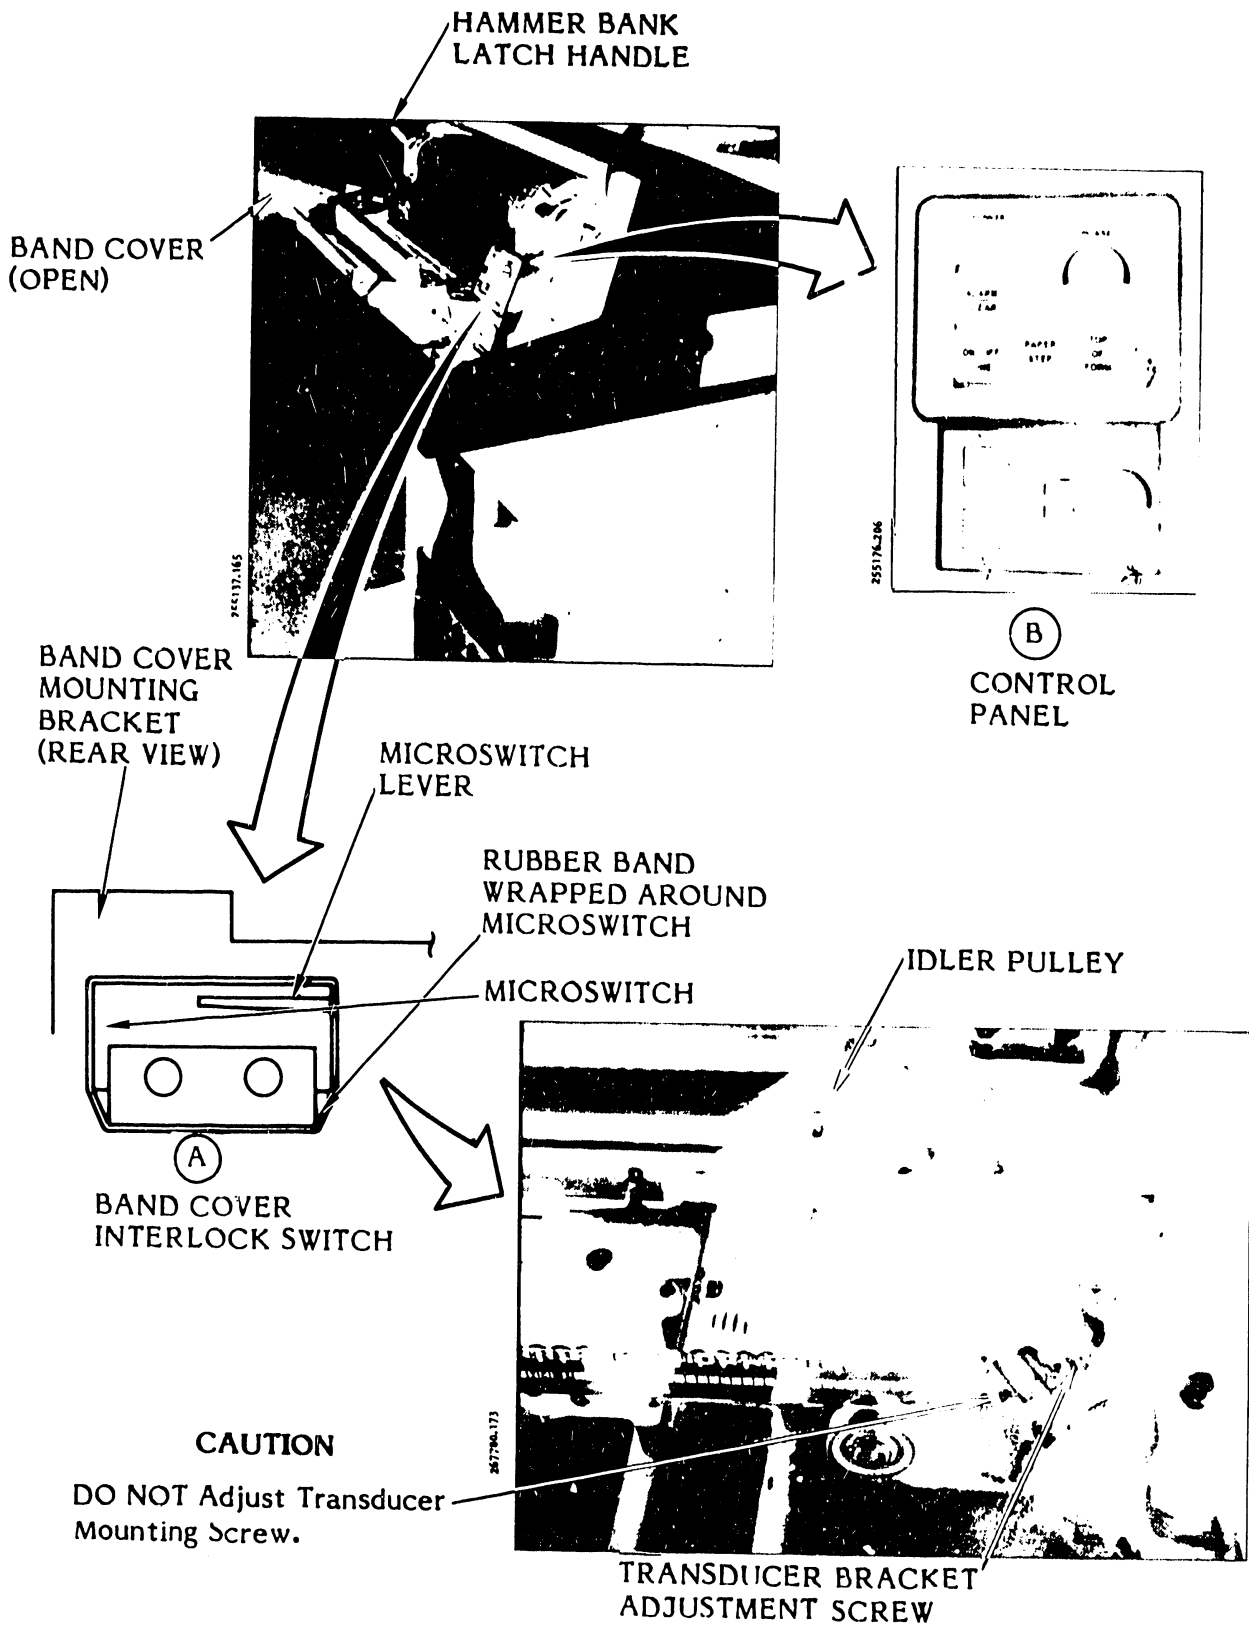

Figure 3-70. Transducer Phasing Adjustment
3.6.18 Transducer Phasing Adjustment (Figures 3-70, 3-71)
- y. Remove the rubber band from the band cover interlock switch (see figure 3-70).